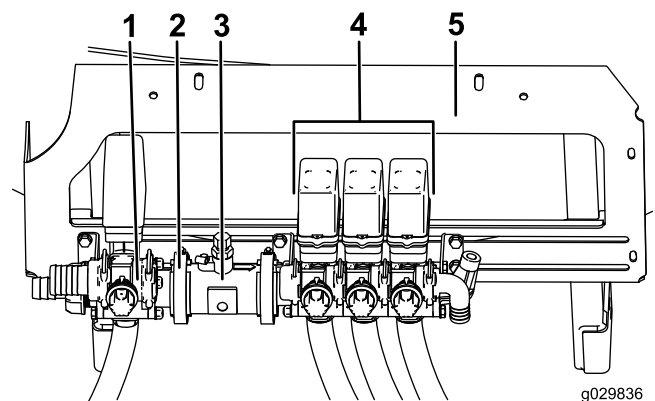

Figure 1
2. Loosen, but do not remove, the bolts that secure the section valve assembly to the mounting bracket (Figure 1).
3. Loosen the existing worm clamp that secures the agitation valve to the flowmeter (Figure 1).